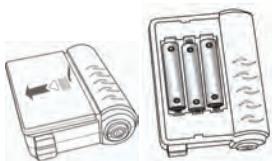

Fig.3-1
- Insert the batteries into the battery compartment. Respect polarities as shown in Fig3-1. .